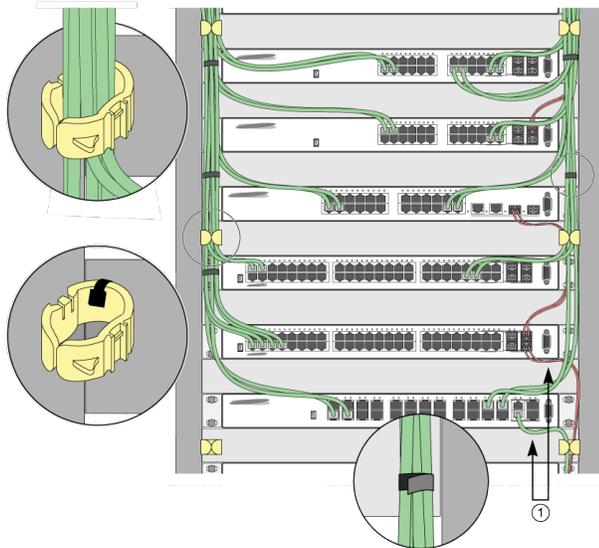

Figure 30: Properly Installed and Bundled Cable
- Provide enough slack, approximately 5 to 7.5 cm (2 to 3 in), to provide proper strain relief as shown in Figure 30 on page 43.
- When installing a patch panel using twisted pair wiring, untwist no more than 2.5 cm (1 in) of the cable to avoid radio frequency (RF) interference.